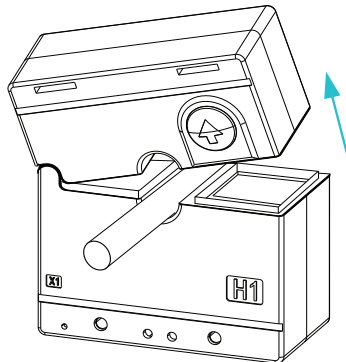

Figure 2 Installation with H1 Facing the Source
1. Place the current transformer with H1 facing the source side of circuit as depicted in Figure 2.